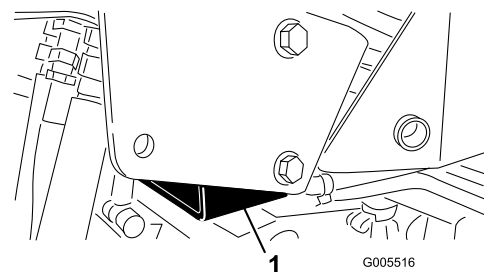

Figure 34
- Right side-under the jack pad and adjacent to the ROPS (Roll Over Protection System) support bracket (Figure 34)